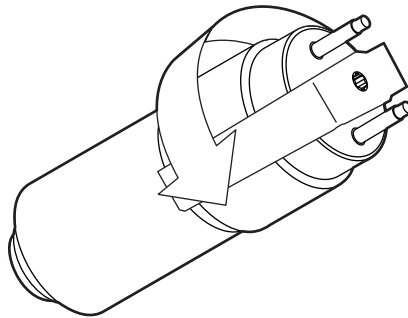

Figure 34 Rotation of the pump head
5. Rotate the entire pump head in a 180° arc (refer to Figure 34).